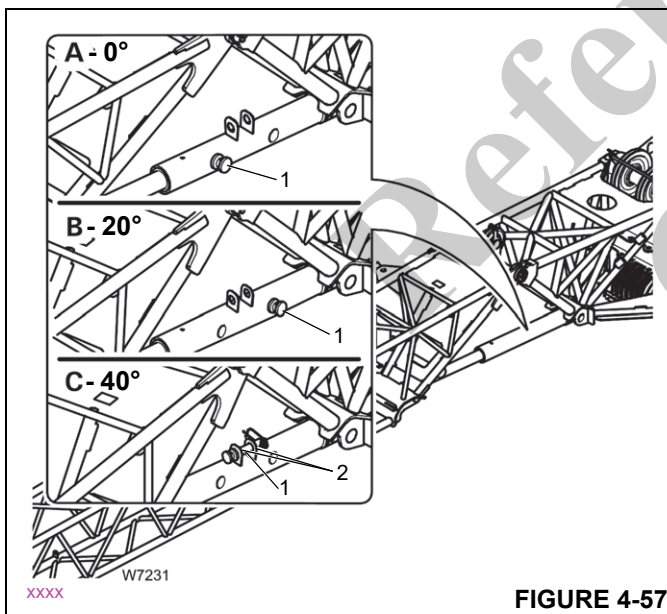

FIGURE 4-57
Refer to Figure 4-57.
1. Lift the extension with the auxiliary crane until the pin (1) (Figure 4-57) is relieved of load.
5. If necessary, relieve the load on the adjusting pin (1) (Figure 4-57) by lowering the boom slightly.
6. Raise or lower the main boom so the pin (1) can be inserted into the position for the angle required, refer to *Extension Angle Adjusting Mechanism, page 4-38*.